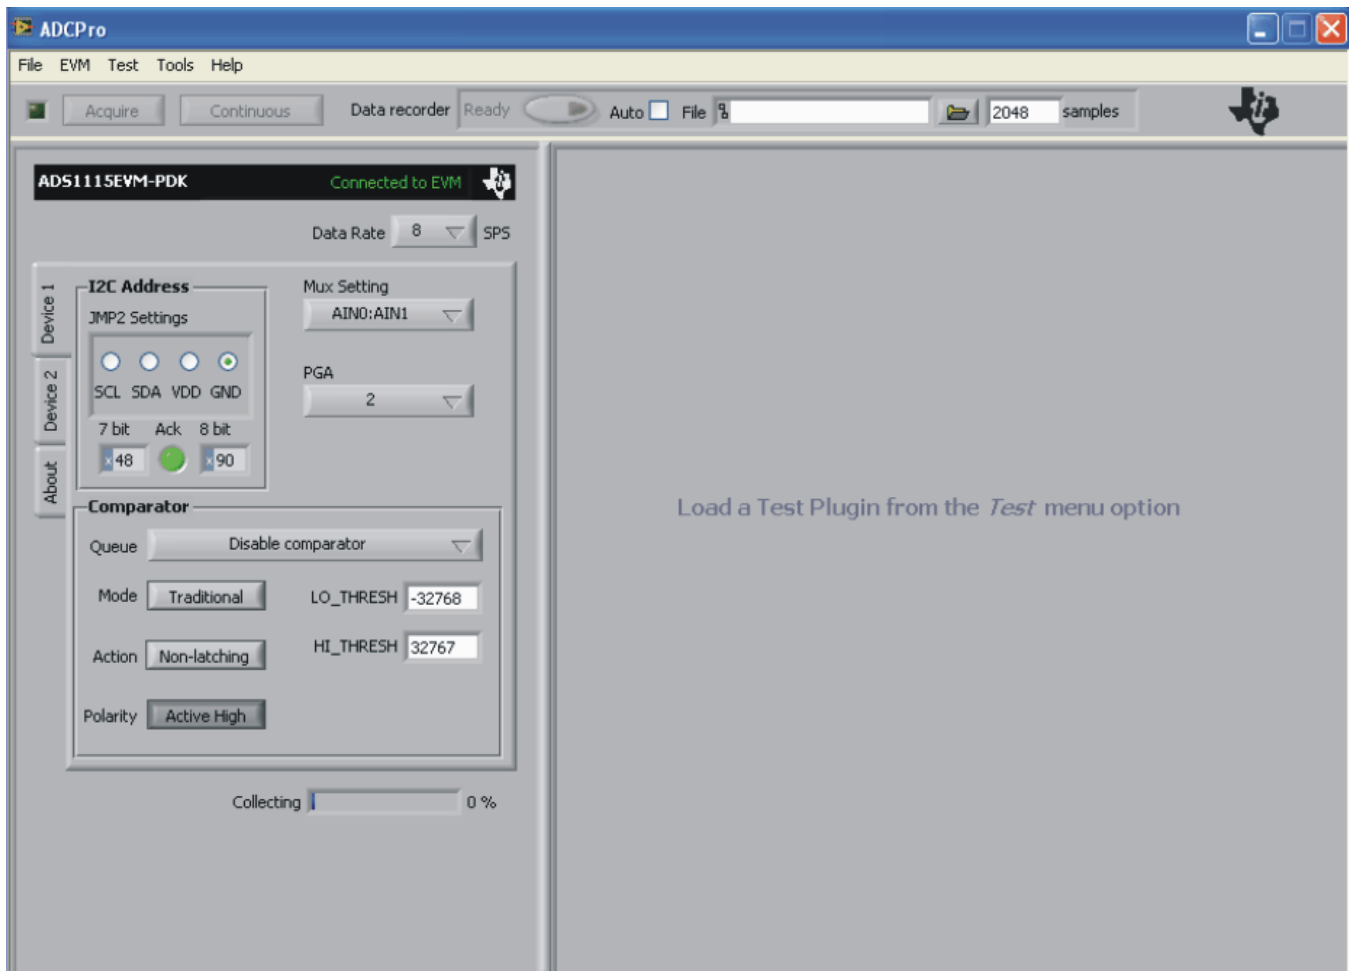

Figure 8. ADS1115EVM-PDK Plug-In Display Window
- Step 2. Select *ADS1115EVM* from the EVM drop-down menu. The *ADS1115EVM-PDK* plug-in appears in the left pane, as Figure 8 shows.